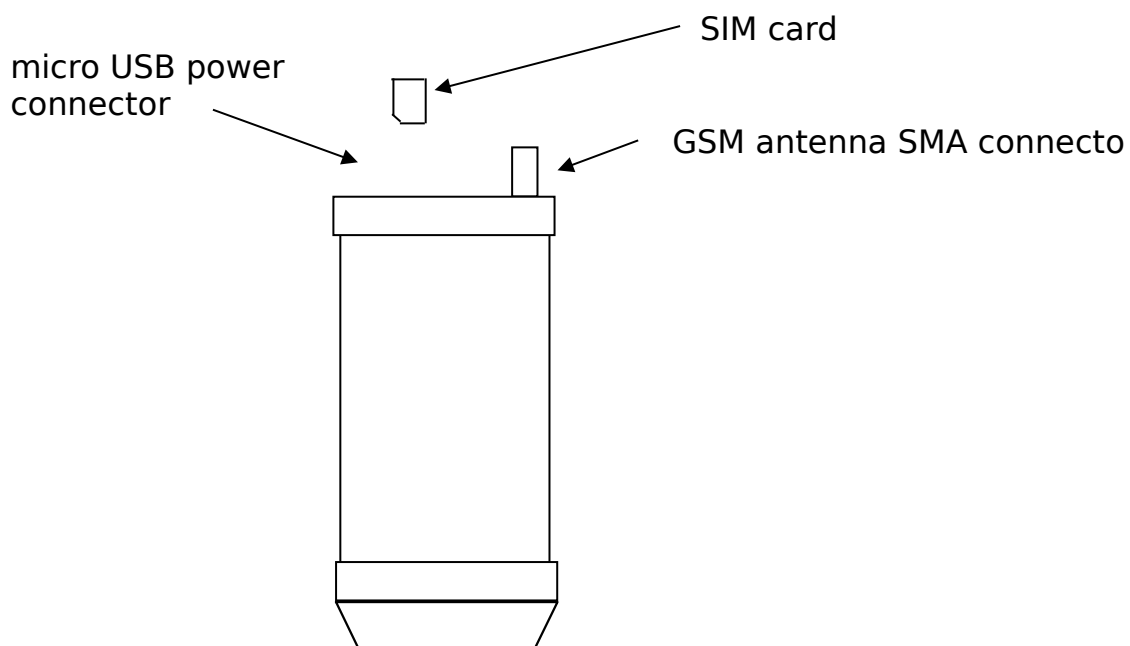

Fig. 1 Top view of the device
- Connect the GSM antenna to the device (Fig. 1). If it has a radiator, it should be placed vertically.